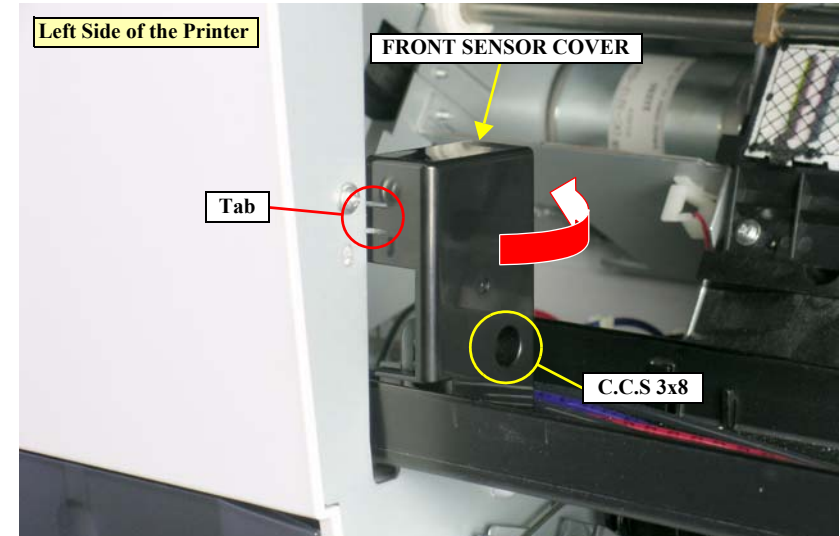

Figure 4-36. Removing the FRONT SENSOR COVER
2. Remove the screw that secures the FRONT SENSOR COVER. *See Figure 4-36.*
3. Release the tab that secures the FRONT SENSOR COVER and turn it in the direction shown in the figure. *See Figure 4-36.*